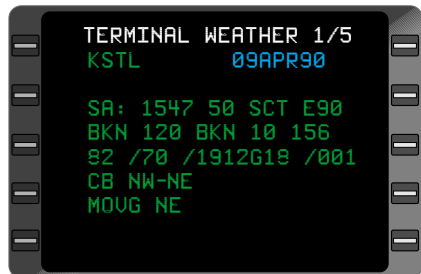

Figure 7-135
10. Access the **TERMINAL WEATHER** Data Page (Figure 7-135) by selecting an Identifier on the **TERMINAL WX MENU** Page.